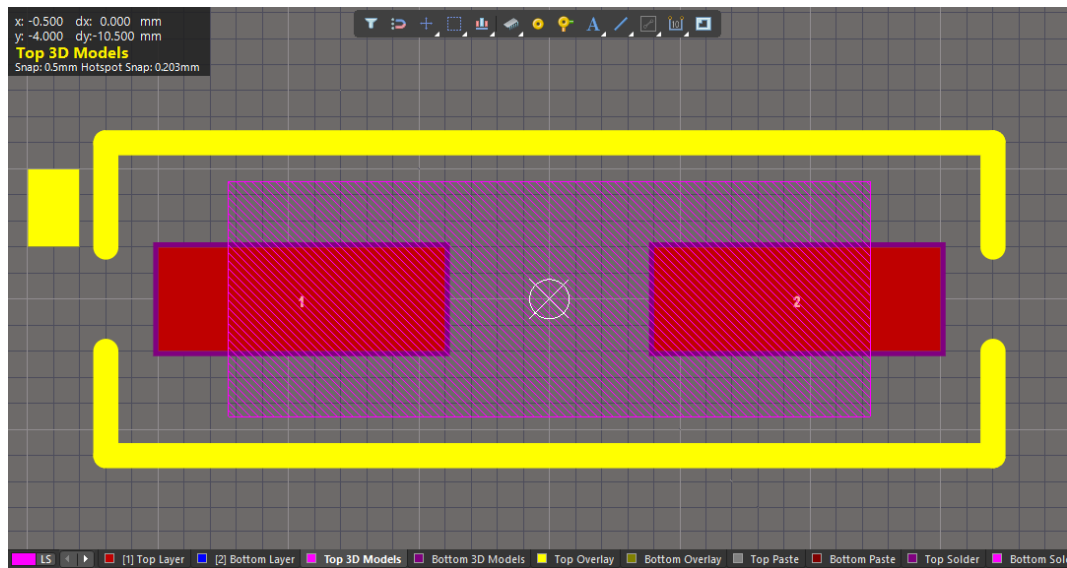

Figure 44. Footprint HC49SMD
68. For soldering and debugging purposes, Pad 1 should also be visually marked. Use the **Active Bar** and right click on the **Graphics** menu and place a Fill near Pad 1, as shown in Figure 44.